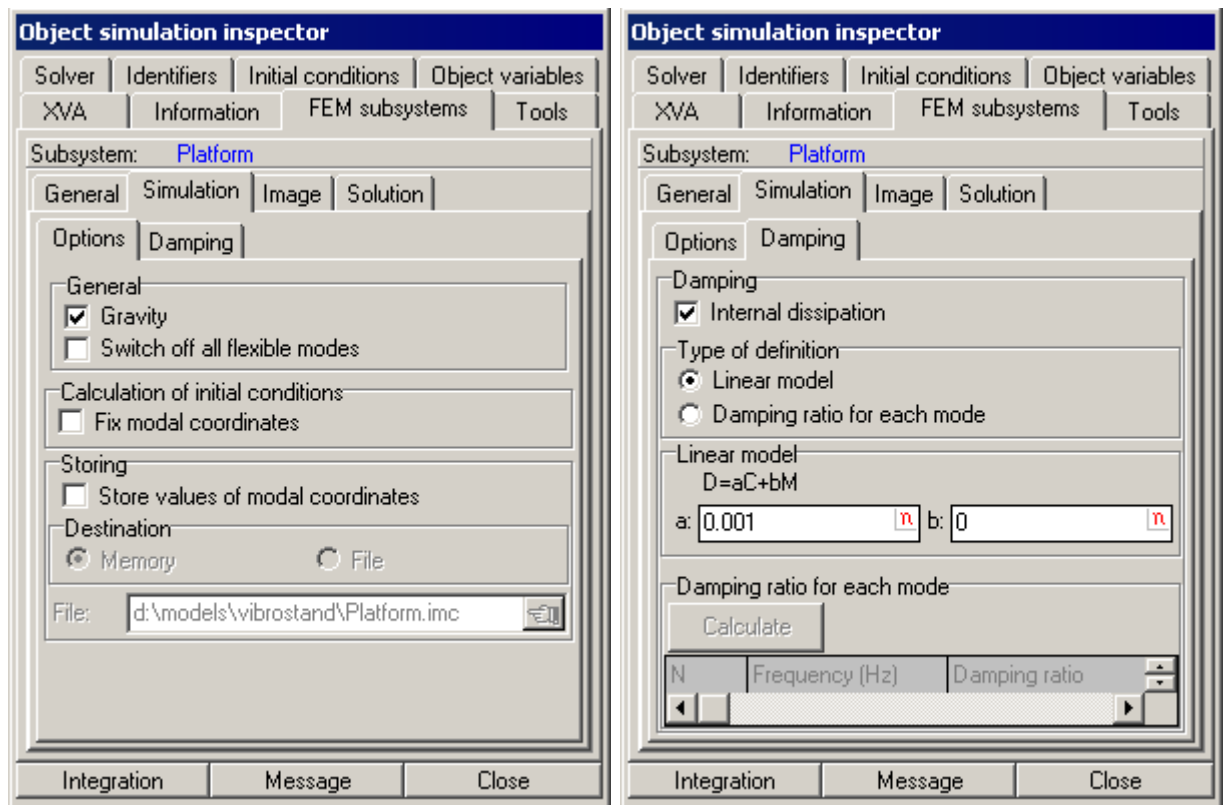

Figure 3.30.
8. On the **FEM subsystems | Simulation** tab switches **gravity**, **internal dissipation** as well as **linear model** should be **ON**. Set **a=0.001**, **b=0** (Fig. 3.30).
1. The option **switch off all flexible modes** should be on (Fig. 3.30).
4. Change the option **switch of all flexible modes** to off (Fig. 3.30).